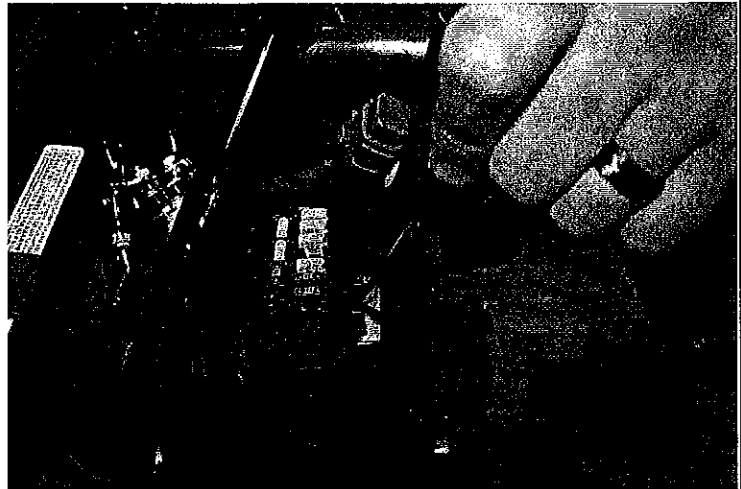

Figure 18
17. To install the contactor you must first remove the fuse box by pressing the button on the front side of the plastic as shown in Figure 18.